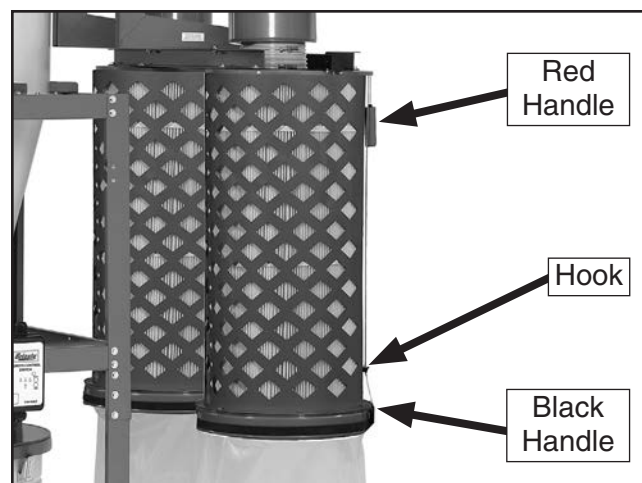

Figure 73. Brush handles in correct position for filter removal.
3. Pull the black handle all the way down and secure the cable into the handle hook at the bottom of the canister assembly, as shown in **Figure 73**, to hold it in place during the following steps.